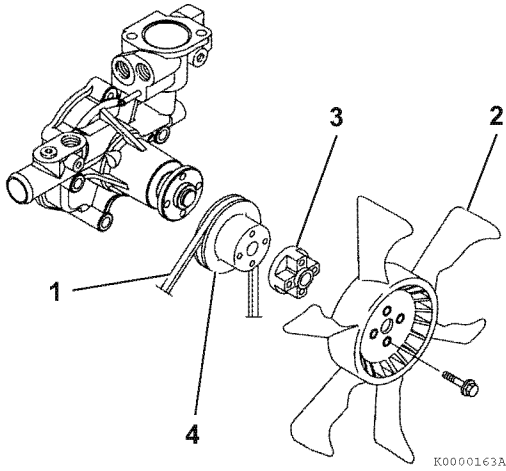

Figure 7-26
14. Reinstall the coolant pump V-pulley (Figure 7-26, (4)), spacer (Figure 7-26, (3)) (if equipped) and engine cooling fan (Figure 7-26, (2)).
15. Reinstall the cooling fan V-belt (Figure 7-26, (1)). Adjust as described in *Check and adjust cooling fan V-belt on page 5-14.*